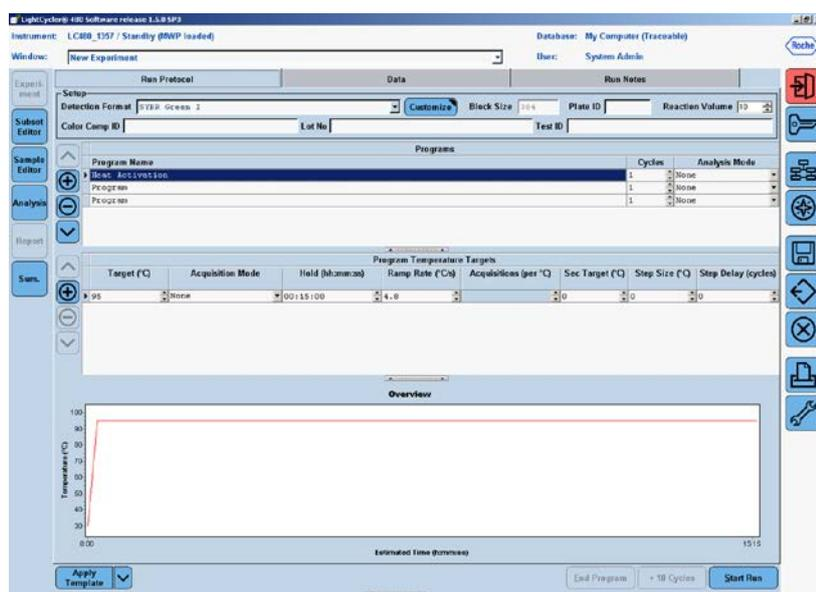

Figure 3. Setup for the first program — Heat Activation.
- Click to change the "Program Name" of the first program to "Heat Activation". Leave the number of Cycles at "1" and leave the Analysis Mode as "None". In the "Program Temperature Targets" section, enter the values for the following parameters (see Figure 3):